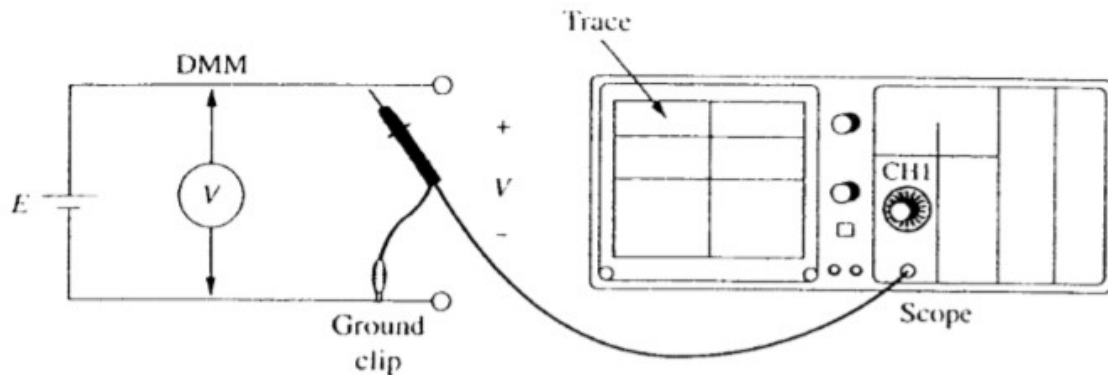

Figure 3
- Connect the probe as in Figure 3 and set VOLTS/DIV to 1V. With the voltmeter, set the power supply to 2V and note the deflection on the screen. From this deflection, compute the measured voltage. (It should equal the applied voltage). Record the results in Table 1.
Replace the DC source of figure 3 with a signal generator. Set your scope to AC coupling, triggering to positive slope and mode to Normal.